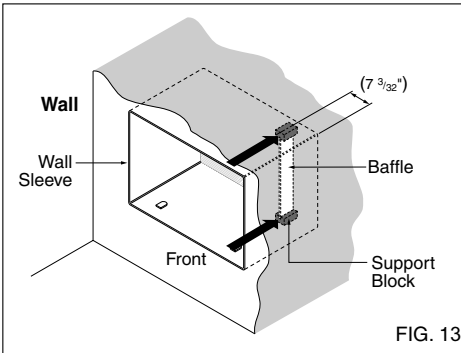

FIG. 13
- 6** Remove the backing from the support blocks and attach them to the inside of the wall sleeve as shown FIG 13. Slide the baffle into slots of the support blocks.